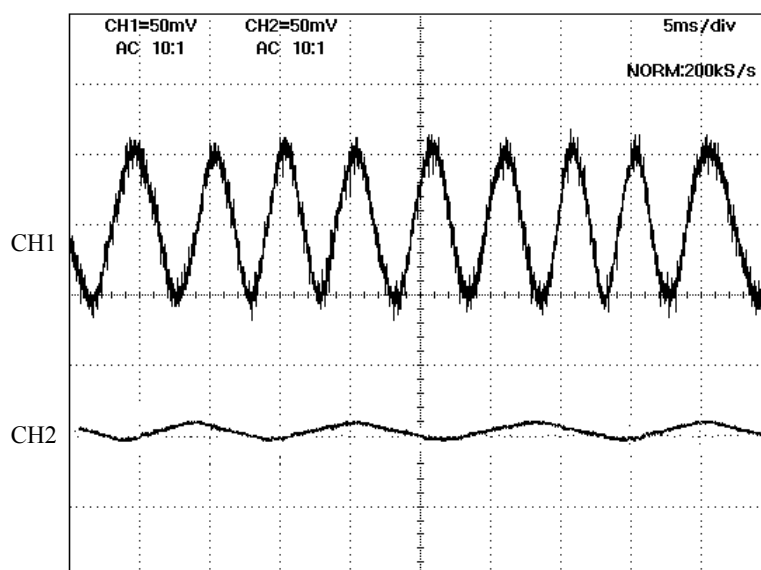

Fig. 3
- As shown in Fig. 3, if the amplitude of only either CH1 or CH2 is small, one of the 2 screws (#75) may be loosened, so check for it. If this is not the case, the MR head may malfunction, so replace the MR sensor unit and make a readjustment.